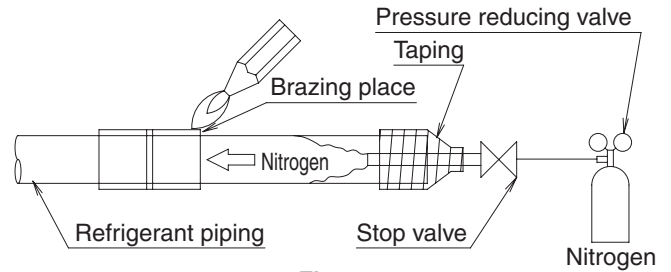

Fig. 13
- Before brazing refrigerant piping, have nitrogen flow through the refrigerant piping and substitute air with nitrogen (NOTE 1) (Refer to Fig. 13). Then, carry out brazing (NOTE 2). After all the brazing works are finished, carry out flare connection with the indoor unit. (Refer to Fig. 12)